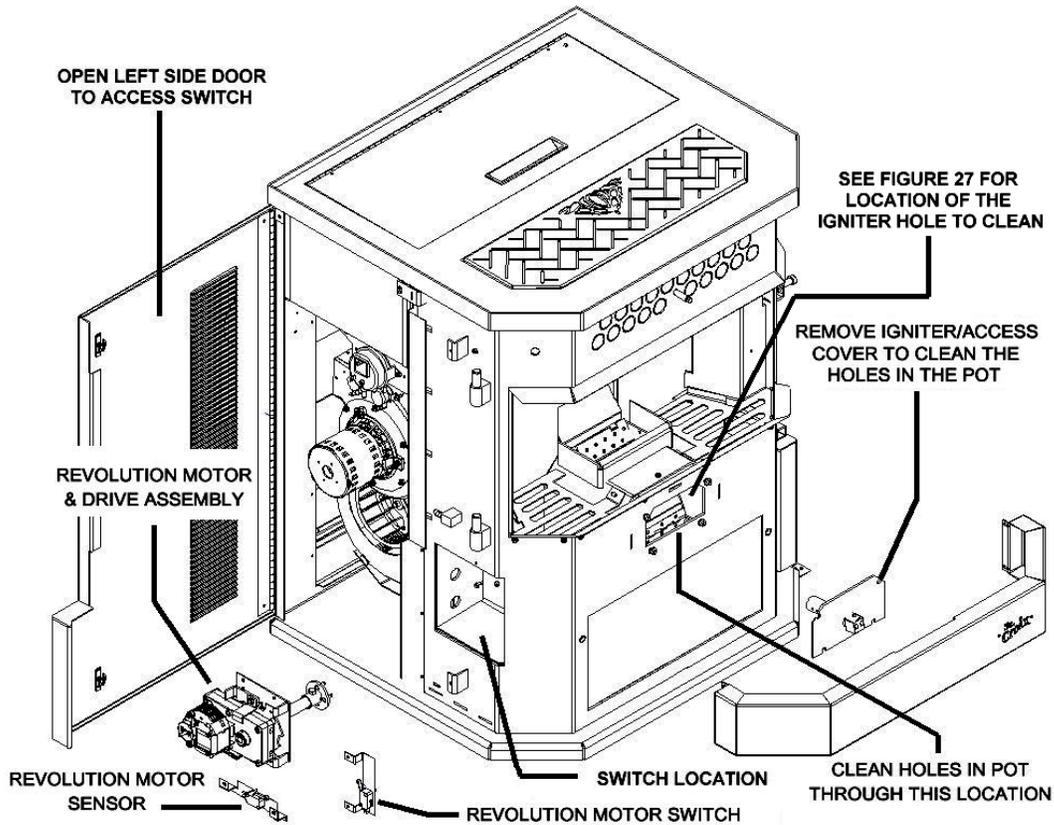
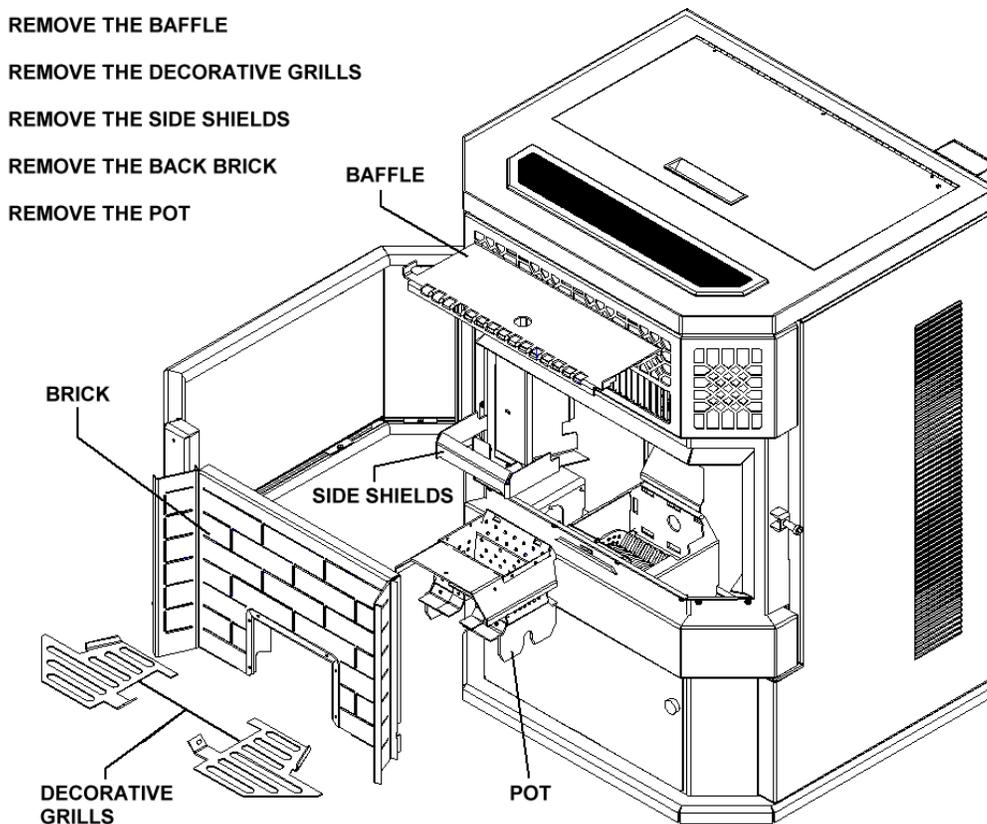

Figure 24
Figure 26
Figure 26 shows in more detail how the pot is removed from the stove for cleaning. The pot should not need to be removed for cleaning if the method is used shown in figures 24 and 25 using a cleaning tool. Try cleaning the pot using both methods to become more familiar with your stove. The Revolution pot design has been changed in this model to make it easier to remove without having to remove the Gearmotor and the Switches that control the drum.
1. First remove the pot as shown in figure 26.